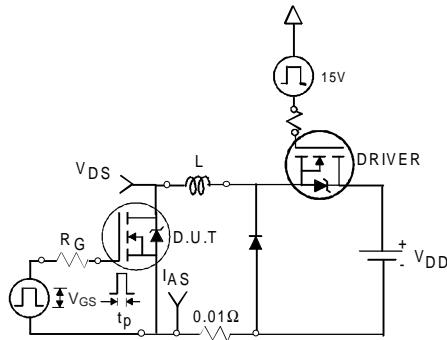

Fig 12a. Unclamped Inductive Test Circuit
- ③ $I_{SD} \leq 85\text{A}$, $di/dt \leq 310\text{A}/\mu\text{s}$, $V_{\text{DD}} \leq V_{(\text{BR})\text{DSS}}$, $T_J \leq 175^\circ\text{C}$
- ④ Pulse width $\leq 400\mu\text{s}$; duty cycle $\leq 2\%$.
- ⑤ $C_{\text{oss eff.}}$ is a fixed capacitance that gives the same charging time as C_{oss} while V_{DS} is rising from 0 to 80% V_{DSS} .
- ⑥ Calculated continuous current based on maximum allowable junction temperature. Package limitation current is 75A.
- ⑦ Limited by $T_{J\text{max}}$, see Fig.12a, 12b, 15, 16 for typical repetitive avalanche performance.
3. Equation below based on circuit and waveforms shown in Figures 12a, 12b.